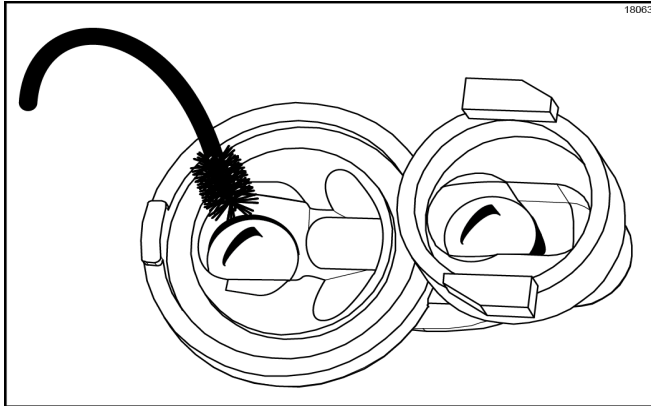

Figure-82
4. Insert the black shielded brush into the top side of the inlet valve. Scrub this area, specifically around the steel ball. (See Figure-82.)